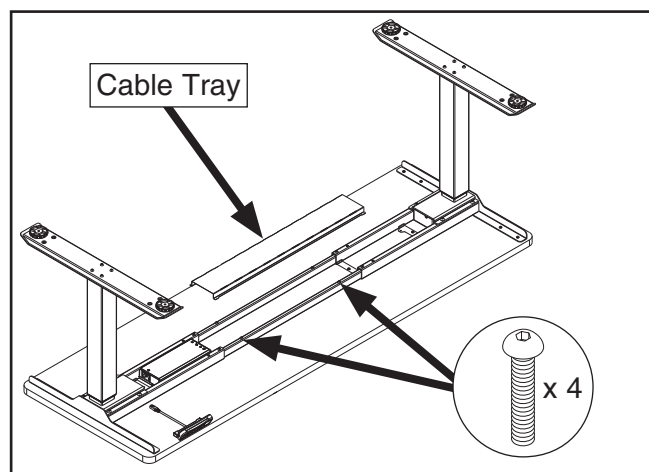

Figure 11. Installing cable tray when leg width is *greater than* 67 $\frac{3}{4}$ ".
13. Install (4) M6-1 x 12 button head cap screws (see **Figure 11**) in support beam.